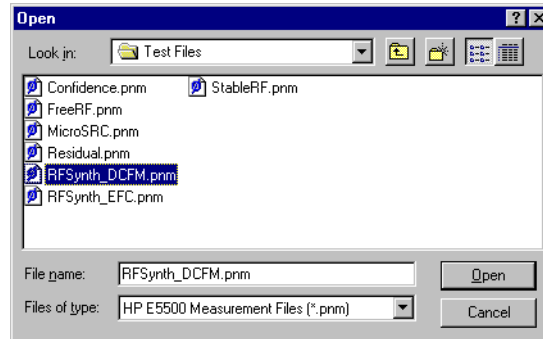

Figure 7-23 Select the Parameters Definition File
- 3 In the **File Name** box, choose “**RFSynth_DCFM.pnm**”. See Figure 7-23.